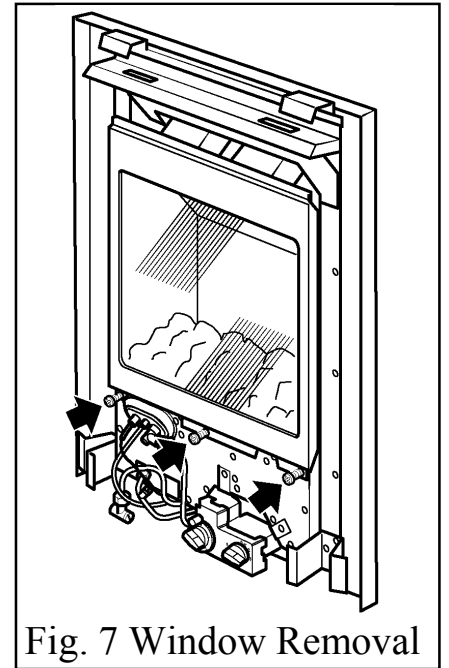

Fig. 7 Window Removal
- Unscrew and remove the three spring loaded window fixing screws and washers from the base of the window frame. See figure 7. Keep the screws and washers in a safe place.